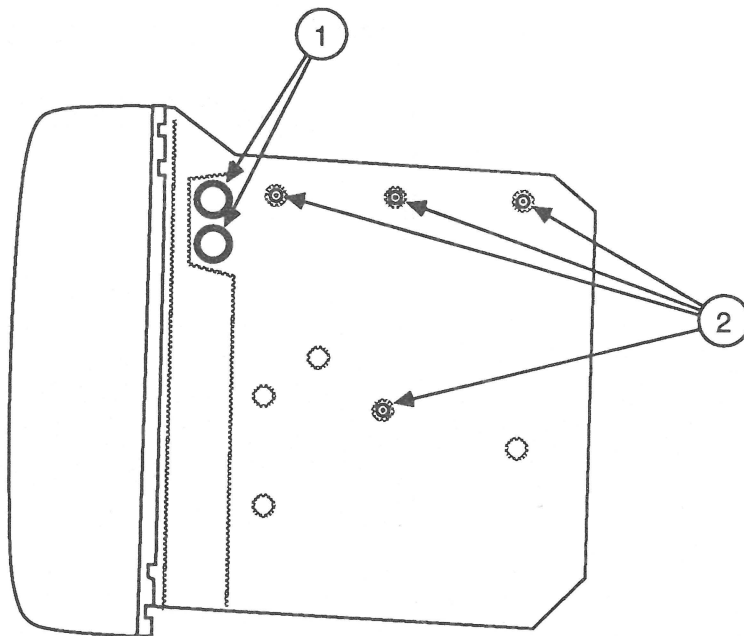

FIGURE 34
4. Replace the four screws (Figure 34, #2) that secure the main board to the chassis frame.
5. Replace the control knobs (Figure 34, #1).